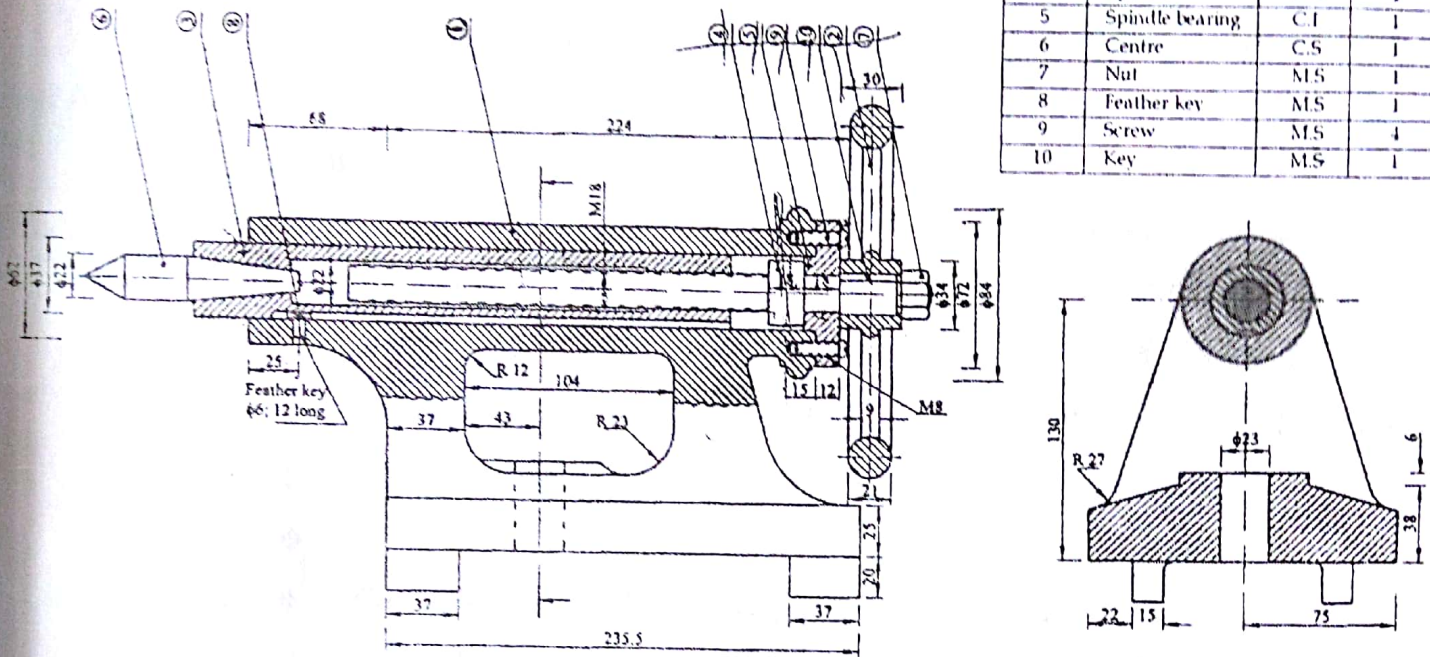

Fig. 1. Assembly drawing of a tail stock
11. From the Assembly drawing of petrol engine connecting rod. Shown in Fig. 1.
11. From the Tail stock shown in Figure 1.
11. From the assembly drawing of pipe vice shown in figure 1. Answer the following :